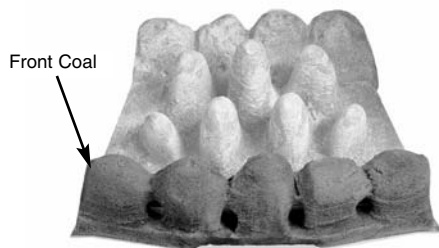

Fig. 26
3. Position the front coal on the front coal retainer, making sure that the back edge is pushed up against the front of the burner strip (Fig. 26).